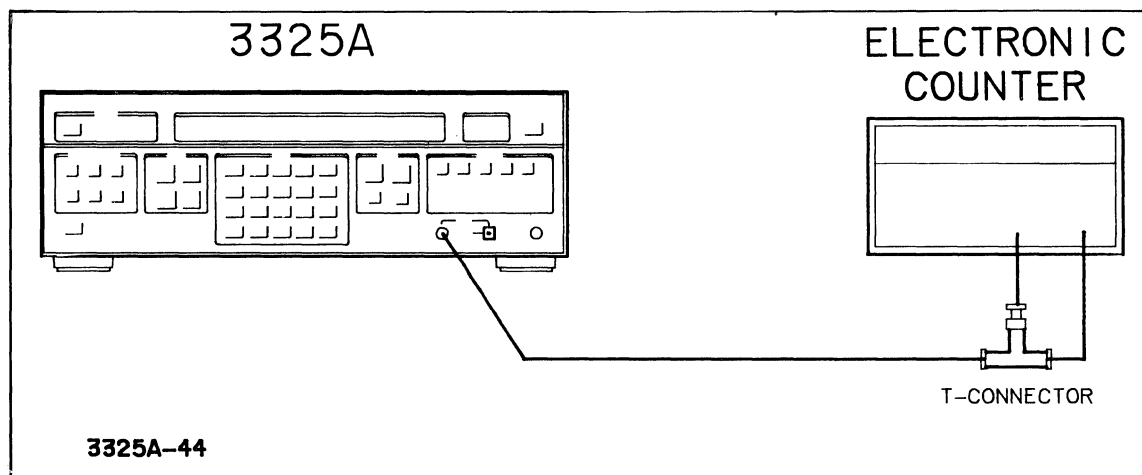

Figure 4-6. Square Wave Symmetry.
a. Connect the 3325A signal output to both inputs of the electronic counter, using a BNC tee (see Figure 4-6).